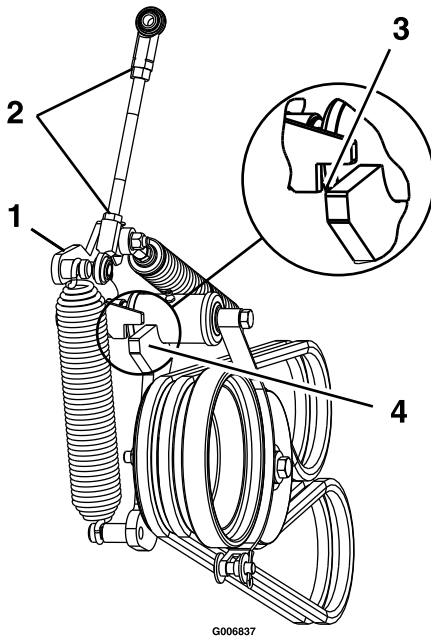

Figure 60
12. Loosen the jam nuts and adjust the linkage until the top of the idler arm is aligned with the bottom of the notch on the tension arm as shown in Figure 60.